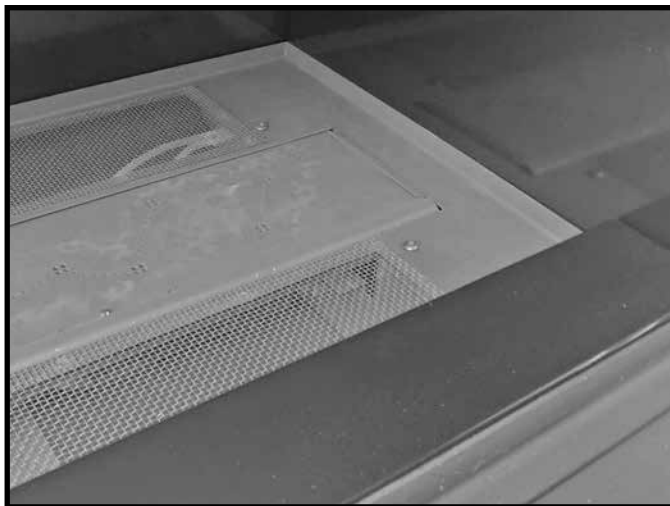

Figure 61: Front panel in place.
7. Rest the front panel over top of the horizontal support (Figure 61). Be sure that the long vertical edge of the panel is facing toward the front of the fireplace.